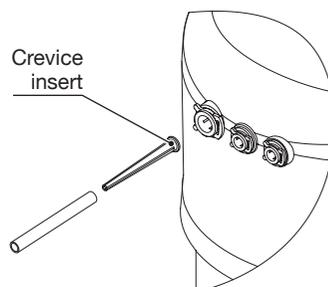

Figure 6
### Installing the crevice insert\*\* (fig. 6)
- Insert the crevice insert into the 3/8" (9.5 mm) tube as shown in fig. 6 and connect this end of the tube to the water cleaner.
- Remove the slotted plug from the tube (fig. 6).